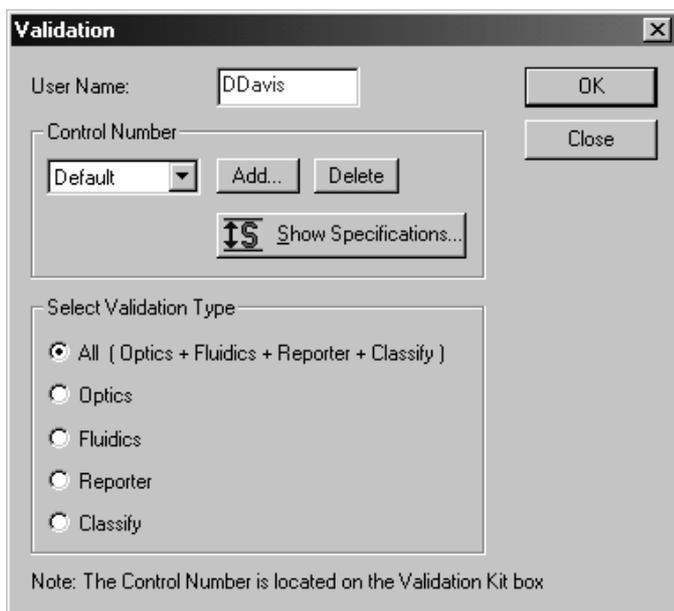

Fig. 2A. Main validation dialog.
5. Select Instrument from the main menu. Select Validation from the pull-down menu. The following dialog box appears: (Figure 2A)